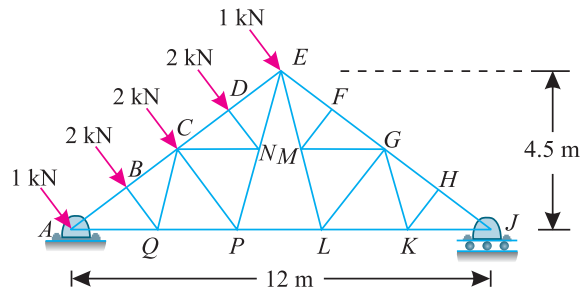

Fig. 12.40.
5. A roof truss of 12 m span and 4.5 m height is loaded as shown in Fig. 12.40